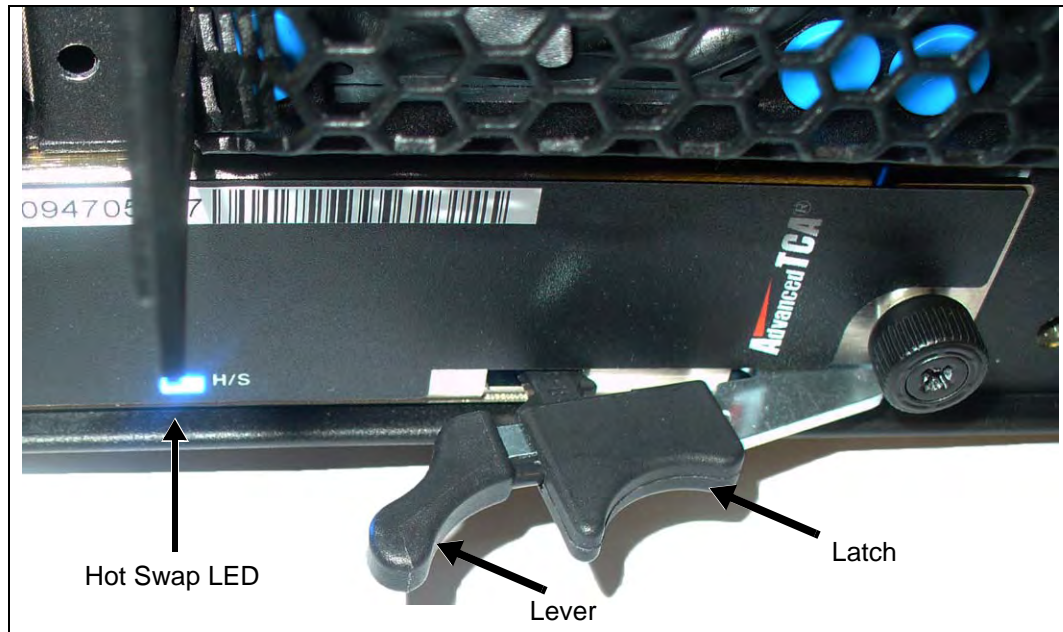

Figure C.15 - IAP100 Right Ejector Handle - Hot Swap Position
1.	Pinch the latch and lever on the right ejector handle and pull the handle outward slightly as shown (Figure C.15).